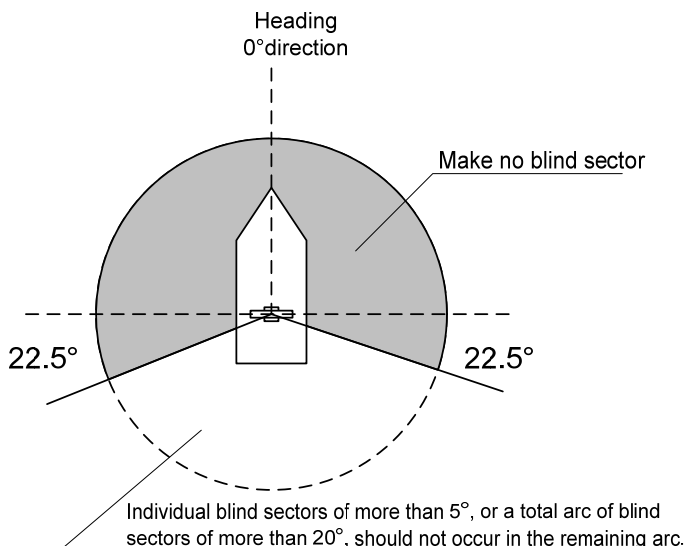

Fig 2-19 Ensuring view angle
- Minimize the blind sector, and ensure the adequate view angle so that the blind sector does not exist in the range 22.5 from side to rear (**Fig 2-19 Ensuring view angle**). Specifically, ensure a sufficient view field in the straight front (relative bearing 000). See "SN.1/Circ.271 6.3(c)".
- Individual blind sectors of more than 5, or a total arc of blind sectors of more than 20, should not occur in the remaining arc, excluding the arc in **Fig 2-19 Ensuring view angle**. See "SN.1/Circ.271 6.3(d)".